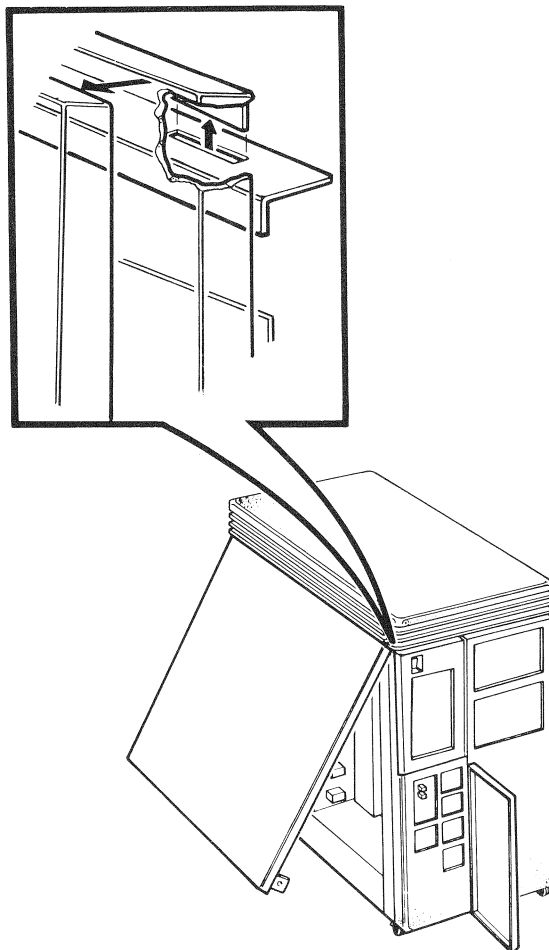

Figure 10-5 Left-Side Panel Removal
5. Lift the panel slightly to release it from the lip at the top of the frame and remove the panel (Figure 10-5).